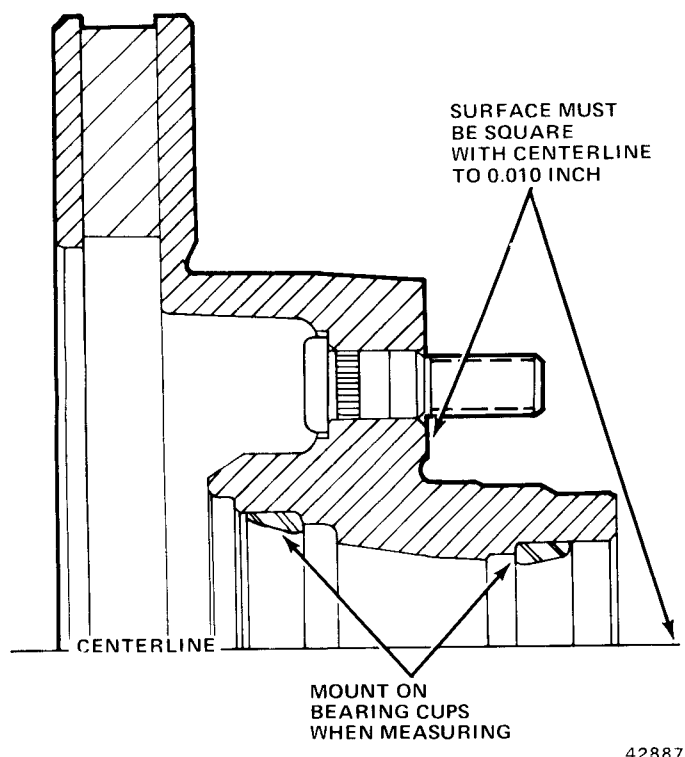

Fig. 9-41 Checking Hub-to-Bore Runout
(4) Check Hub-to-Bore Runout: Wheel mounting surface of hub must be square with centerline of bearing cup bore to within 0.010 inch (fig. 9-41).
(5) Remove driving flange using Front Axle Shaft Drive Flange Puller J-25133.